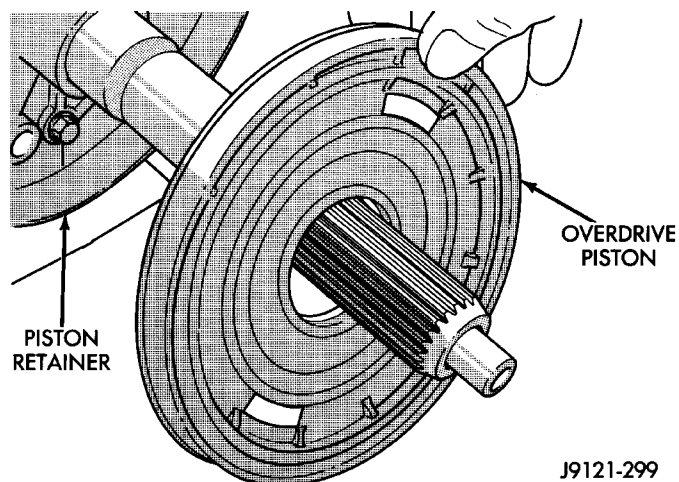

Fig. 197 Overdrive Piston Removal
(3) Remove overdrive piston from retainer (Fig. 197).